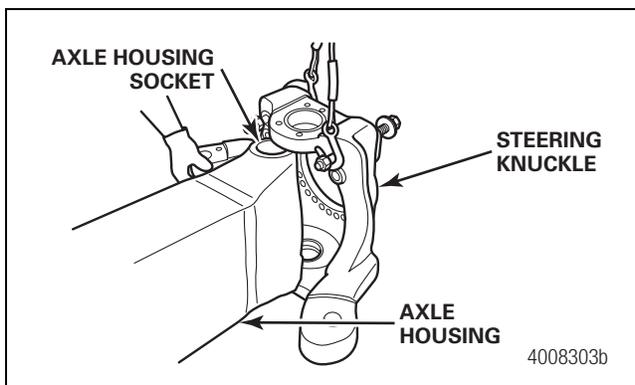

Figure 8.5
7. Use a lifting device to support the knuckle assembly. Guide the knuckle assembly into position and install it onto the axle. Figure 8.5.